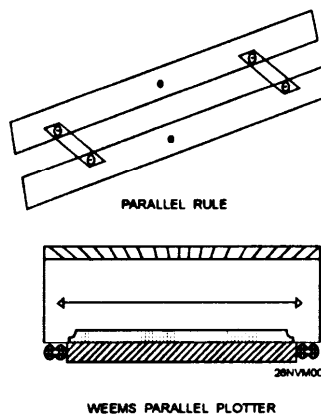

Figure 8-7. A parallel rule (top) and a Weems parallel plotter.
**Parallel Rulers:** Parallel rulers are instruments used for moving lines parallel to themselves, determining direction from the compass rose, and laying out course lines. These are, of course, only a few of the uses of parallel rulers. Some of the other uses include drawing straight lines, advancing lines of position, checking ranges, plotting fixes, and measuring direction from one given point to another. There are other devices available which are easier to use and will do the same job as parallel rulers. The Weems parallel plotter (fig. 8-7) is the most widely used variation of the parallel ruler.